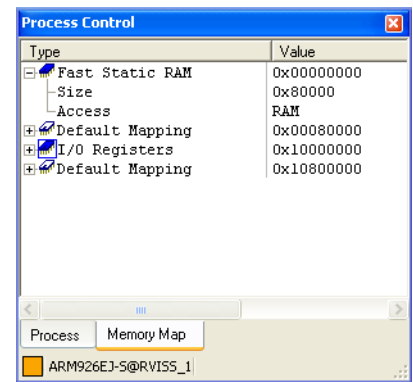

Figure 4-32 New memory block in the Memory Map tab
4. Select **Memory Map Tab** from the **View** menu to display the Process Control view with the **Memory Map** tab selected. Figure 4-32 on page 4-53 shows an example: